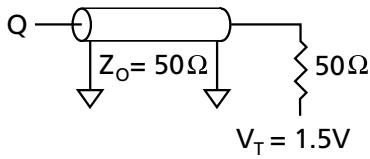
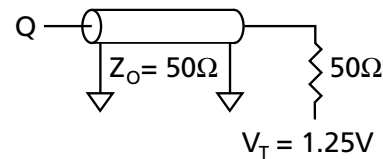

Figure 1
Figure 3
1. Test conditions as specified with the output loading shown in Figure 1 for 3.3V I/O (V_{DDQ} = +3.3V +0.3V/-0.165V) and Figure 3 for 2.5V I/O (V_{DDQ} = +2.5V +0.4V/-0.125V) unless otherwise noted.
Output load	See Figures 1 and 2
Output load	See Figures 3 and 4